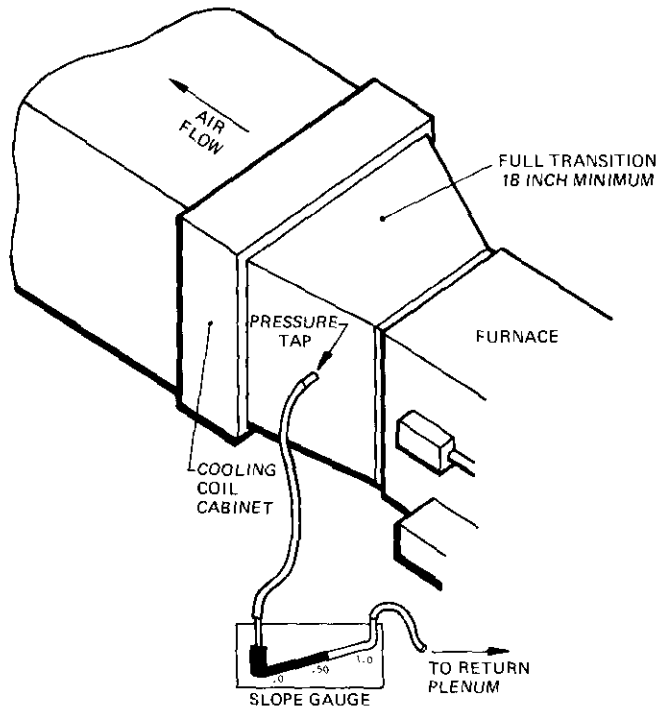

Figure 54 (4-027)
2. Insert one static pressure tap into transition duct between furnace and cooling coil. Insert tap into warm air supply plenum on heating-only applications. Insert a static pressure tap in return air plenum. See Figure 54.
3. Connect pressure tap attached to transition duct (warm air supply plenum) to positive pressure side of slope gauge (bottom of scale). See Figure 54. Use flexible tubing.
4. Connect pressure tap attached to return air plenum to negative pressure side of slope gauge (top of scale). See Figure 54. Use flexible tubing.